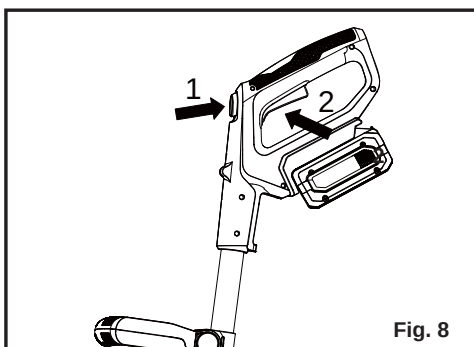

Fig. 8
2. Press the lock-off switch on the main handle and hold it in position. Press the on/off switch to switch the trimmer on (Fig. 8). Once started release the lock-off switch.